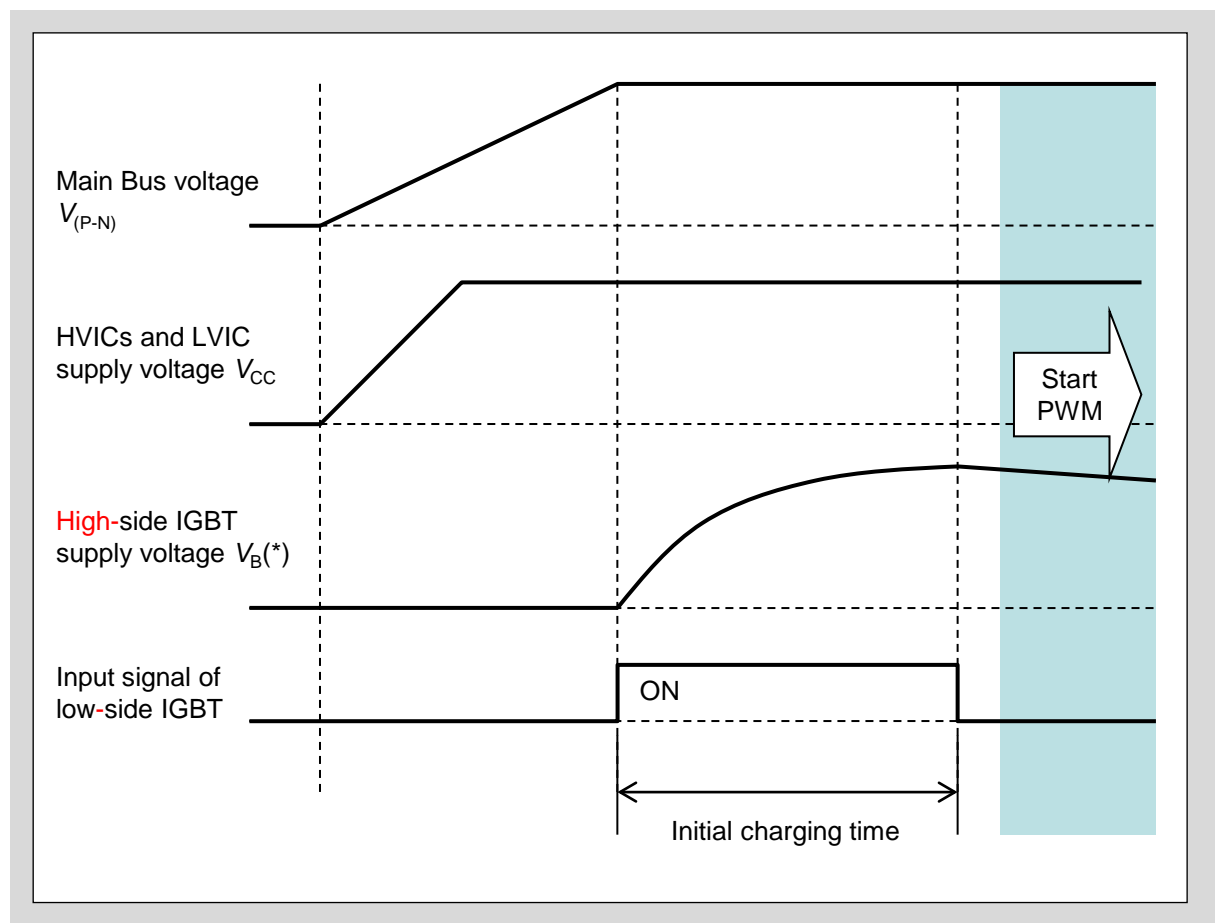

Fig.3-12 Timing chart of initial charging operation
- A diode is electrically connected between TEMP-COM terminal as shown in Fig. 3-12. The diode protect the product from input surge voltage. Do not use the diode for voltage clamp purpose otherwise the product might be damaged.